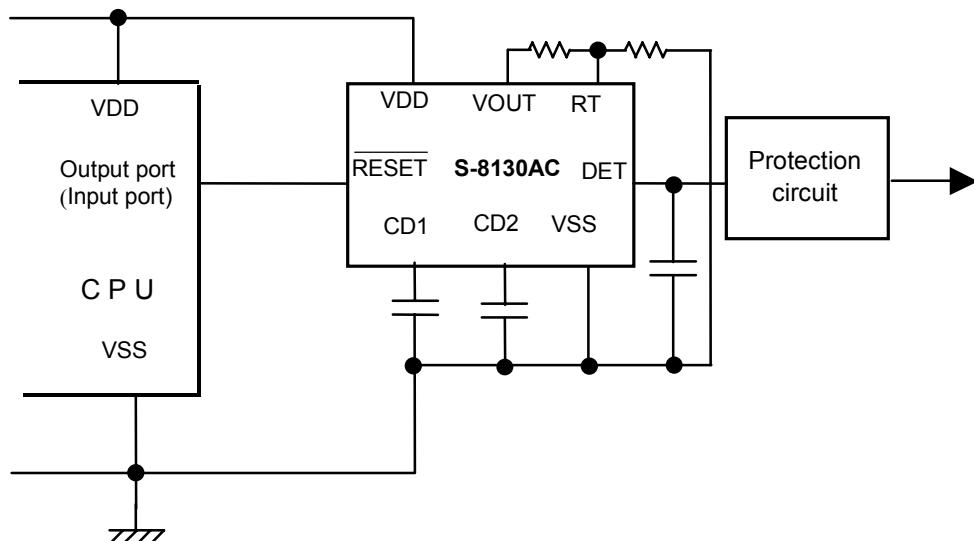

Figure 4
- Since the S-8130AC has a voltage detector inside, control for the RESET pin is not necessary to activate the circuit unlike the **Figure 4**. In this case the RESET pin should be open.